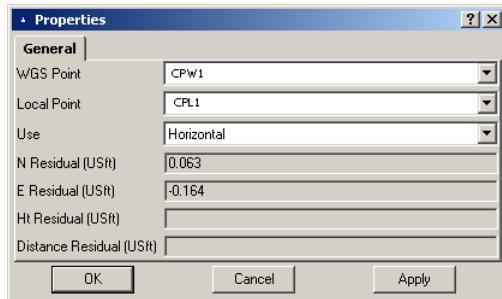

Figure 5-5. Control Point Properties
- Right-click the Control Point and click **Properties** on the pop-up menu. Select the corresponding *WGS Point/Local Point* from the drop-down list (Figure 5-5).